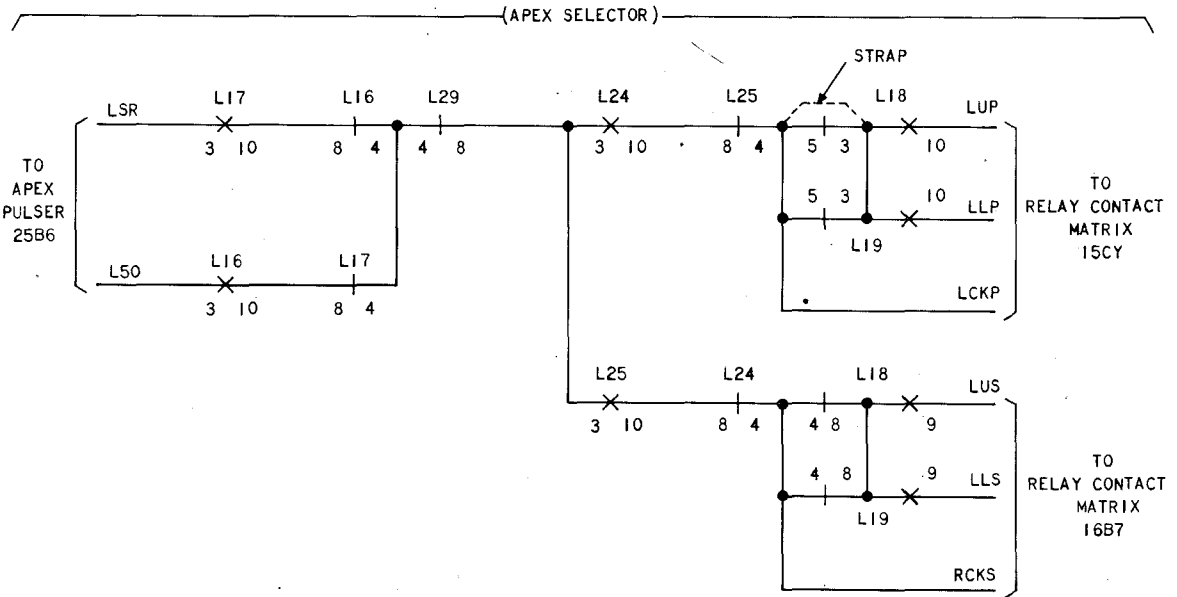

Fig. 7—Apex Selector
**6.11** Figure 7 shows where strap would be applied, for test purposes.